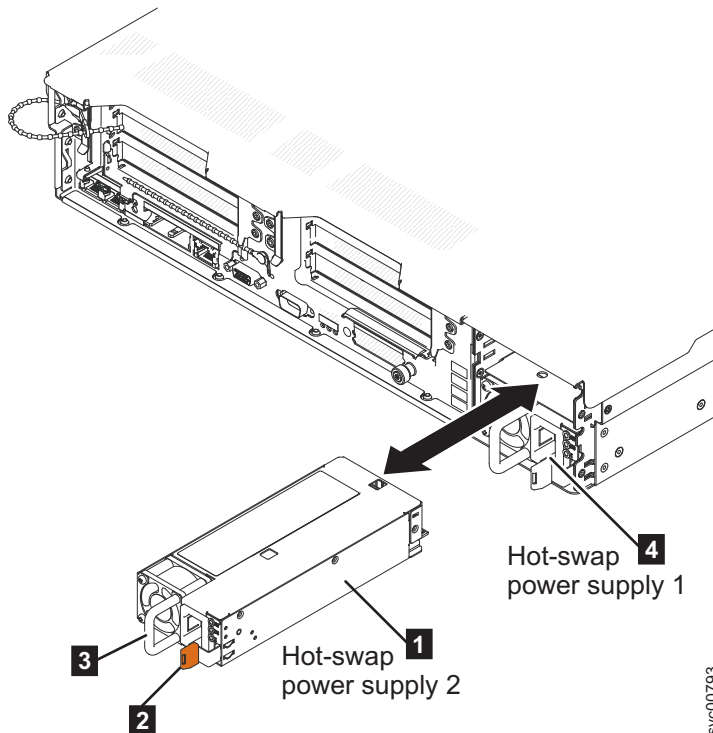

Figure 198. Removing the SAN Volume Controller 2145-DH8 power supply
5. Press and hold the release tab to the left; then grasp the handle and pull the power supply out of the node, as shown in Figure 198.